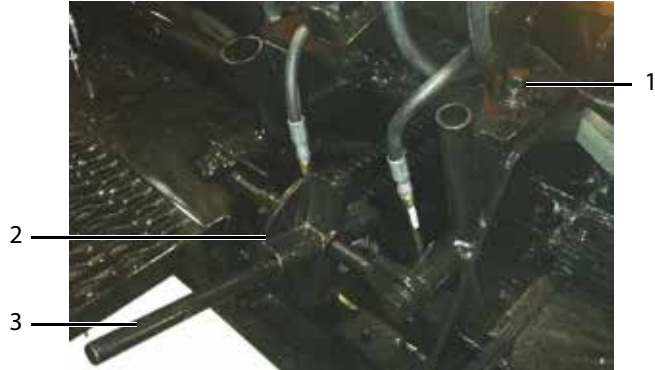

Figure 4-11. Crown Adjustment
1. Loosen hex head bolt next to vibration motor (Figure 4-11,1)
2. Remove crown handle from toolbox and insert into crown adjuster (Figure 4-11,2,3).